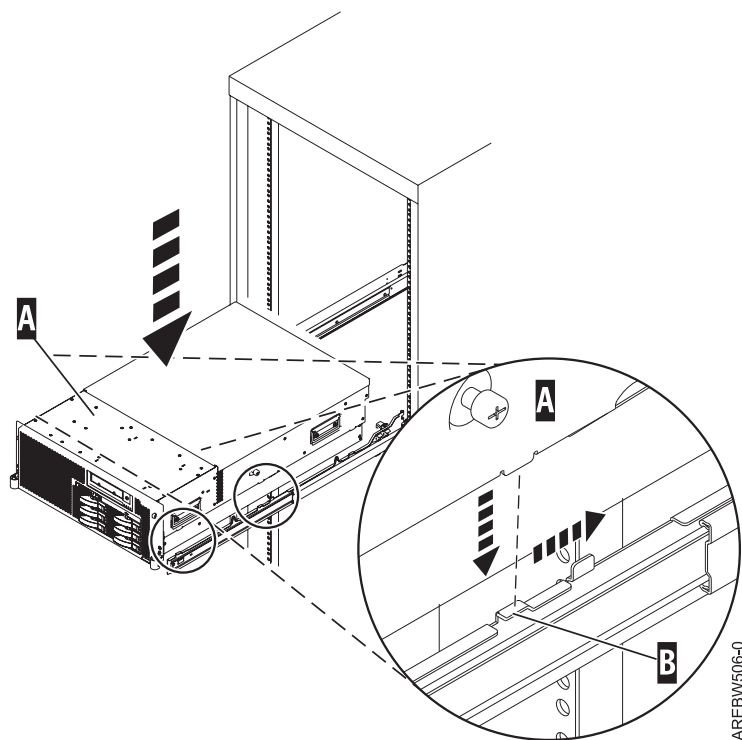

Figure 28. Place system onto the rails
8. Extend the inner rails by pulling out the rails. They must be extended from the frame like the rails shown in Figure 28.
9. Using three people, grasp the two handles located on each side of the system drawer, and place the system onto the inner rail. Align tab **A** with slot **B** as indicated by the vertical dashed line shown in Figure 28.